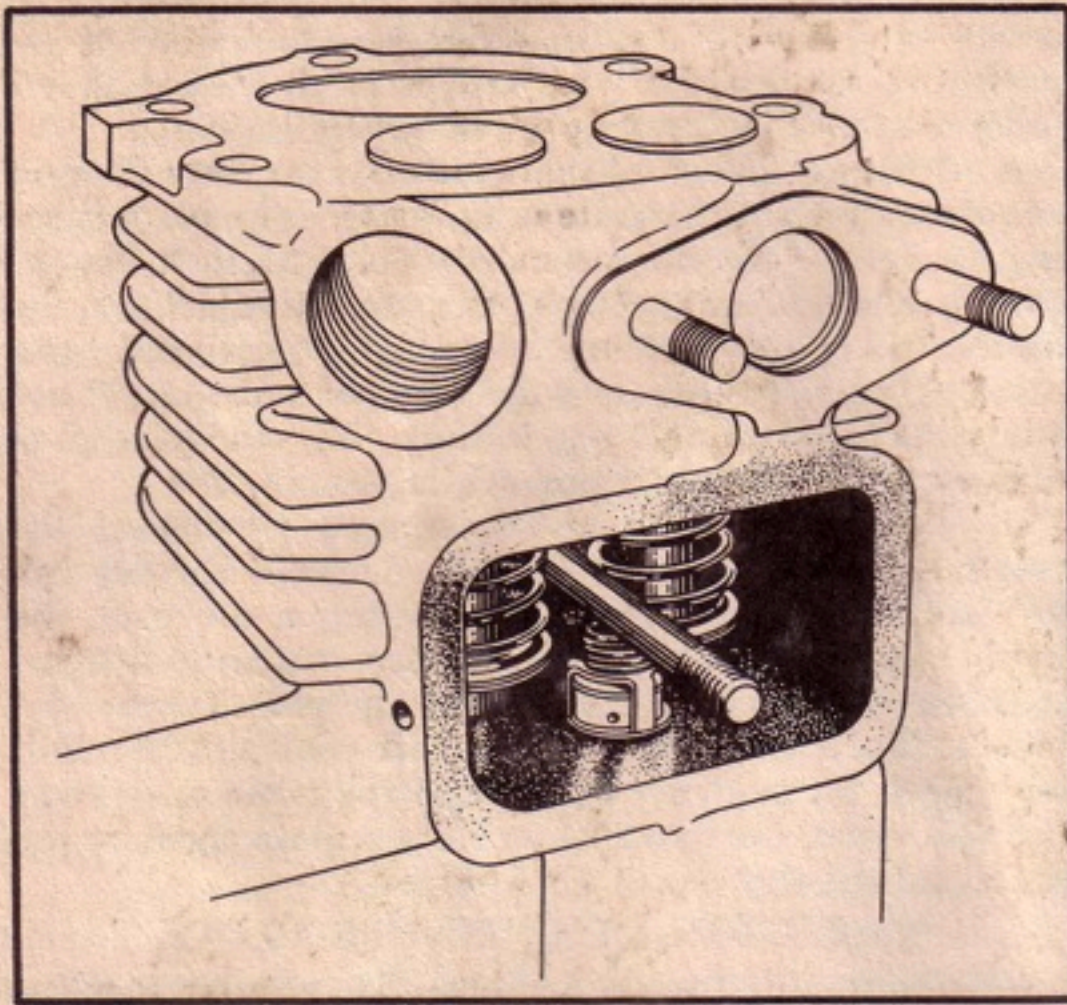
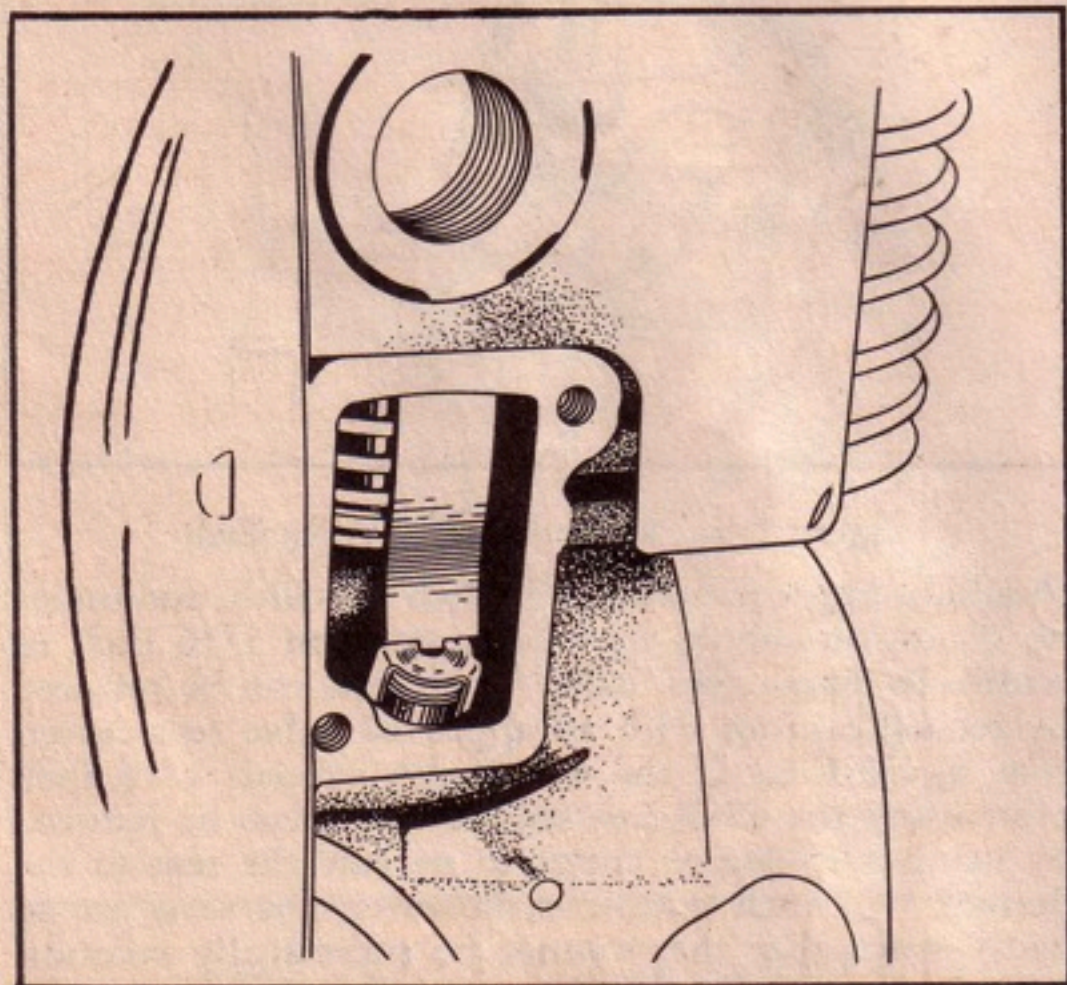

Figure C-7. Oil Breather Assembly in Typical Horizontal Shaft Engine
Figure C-8. Oil Breather Assembly in Series 300 Engine
g. Early engines had a 3/16-inch vent hole in the valve chamber wall, and in some cases this small opening would cause excessive pressure to be built up in the crankcase resulting in high oil consumption. When overhauling an engine, this vent hole should be enlarged to 3/8 inch and a breather assembly, No. 7150A, should be installed, if not already in the engine. The breather assembly, No. 7150A, is used on all engines after serial No. 1895 (B-700) and 21090 (1100). These new type oil breather assemblies and the methods of retaining them in place are shown in figures C-7 and C-8. Figure C-7 shows a typical horizontal shaft engine, and figure C-8 shows installation on series 300 engines.